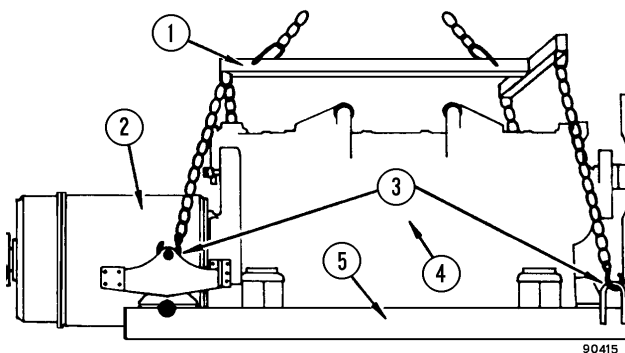

FIGURE 2-6. POWER MODULE LIFT POINTS
23. Attach lifting device to hoist and attach to engine/alternator cradle structure and front subframe lifting points as shown in Figure 2-6. Remove safety chain.
4. Attach a lifting device to engine/alternator cradle structure and front subframe lifting points. (Figure 2-6)